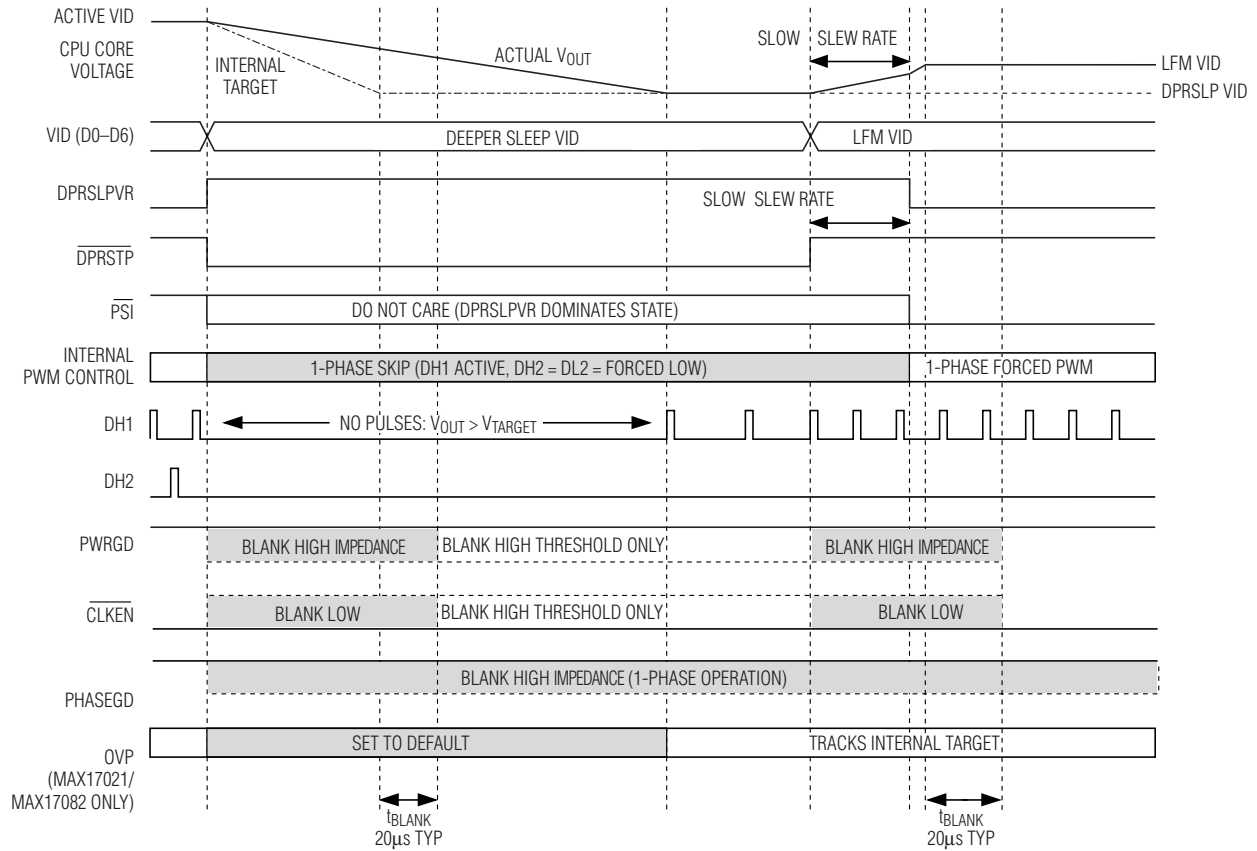

Figure 7. Slow C4 Transition
- IMVP-6+ Slow C4 Deeper Sleep Exit:** When exiting deeper sleep (DPRSLPVR high, $\overline{\text{DPRSTP}}$ pulled high) while the output voltage is regulating to the deeper sleep voltage, the MAX17021 remains in 1-phase skip mode and ramps the output voltage to the LFM DAC code provided by the processor at 1/4 the slew rate set by R_{TIME}. The controller blanks PWRGD, PHASEGD, and CLKEN until 20μs after the transition is completed. See Figure 7.